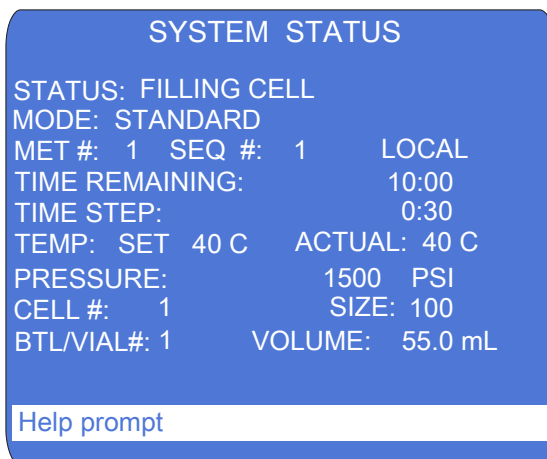

Figure 2-10. System Status Screen
- The **SYSTEM STATUS** screen (see Figure 2-10) on the Dionex ASE 350 front panel. To exit the **SYSTEM STATUS** screen, press **Menu**. For a description of the screen parameters, see Table 2-2.